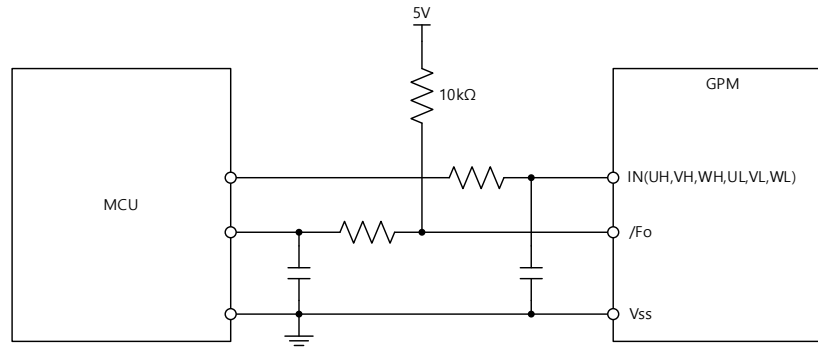

Figure 6. Recommended MCU I/O Interface Circuit
2. Fault output is an open-drain type. This signal line should be pulled up to the positive side of the MCU or control power supply with a resistor that makes I_{FO} up to 1 mA. Please refer to Figure 6.
3. Input signal is active-HIGH type. There is a 5 k Ω resistor inside the IC to pull-down each input signal line to GND. RC coupling circuits should be adopted for the prevention of input signal oscillation. RC time constant should be selected in the range 50~150 ns (recommended R = 100 Ω , C = 1 nF). Please refer to Figure 6.